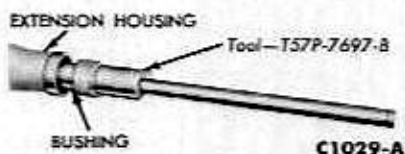

FIG. 13—Bushing Installation
16. If installation of the extension housing bushing and/or the seal is necessary, use the tools shown in Figs. 13 and 14.